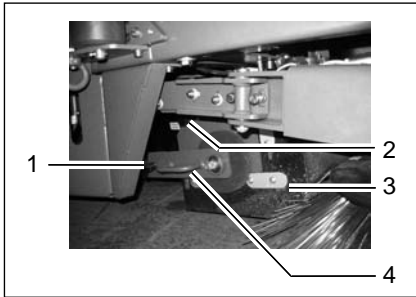

Fig. 41
4. Unscrew the knurled screw for the brush swing arm (Fig. 41/1).
5. Pull off the brush swing arm (Fig. 41/4).
6. Unscrew the knurled screw for the brush space cover (Fig. 41/2).
7. Remove the brush space cover (Fig. 41/3).